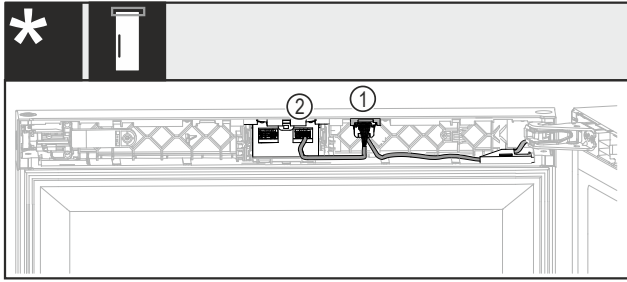

Fig. 45 Without lock or with mechanical lock*
- Insert the plug with both cables Fig. 45 (1) into the guide.*
- Engage the plug with a cable Fig. 45 (2) in the right-hand retaining clip.*